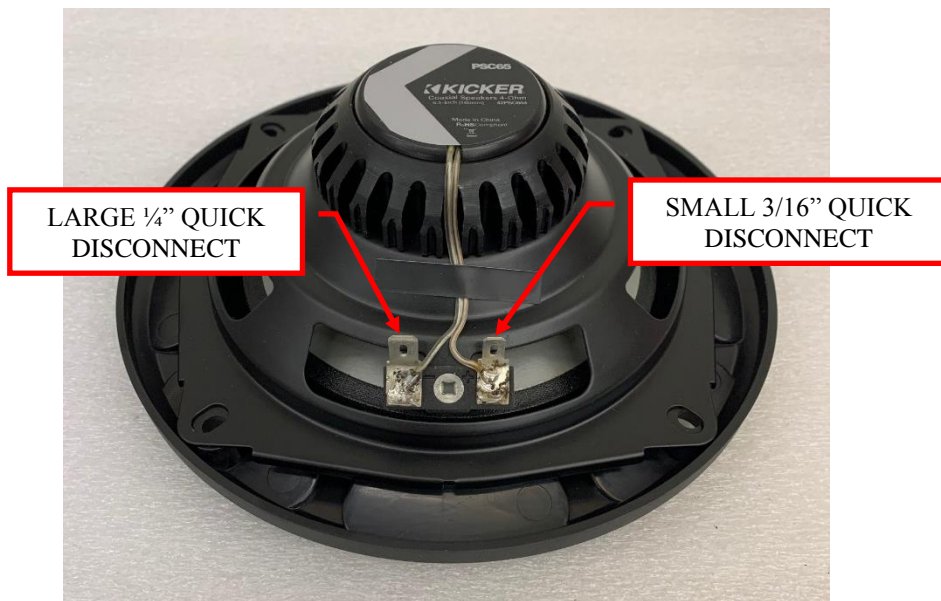

Figure 5: Speaker wire orientation.
6. Re-install the speakers. Be sure to place the large quick disconnect on the $\frac{1}{4}$ " speaker tab and the small quick disconnect on the $\frac{3}{16}$ " speaker tab. Re-use the Philips head screws you removed previously. Do not over torque the speaker screws with an impact driver (hand tighten only). See Figure 5.